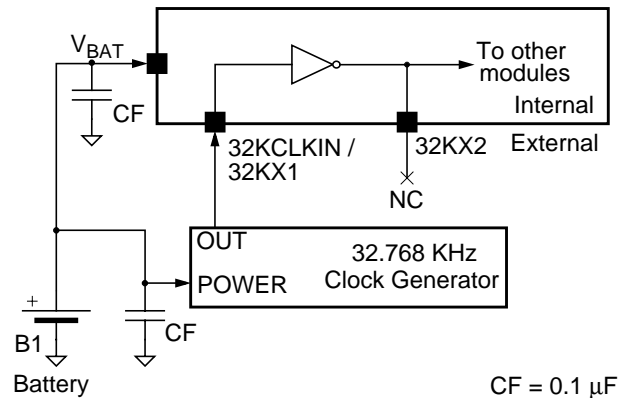

Figure 114. External Oscillator Connections
32.768 KHz can be applied from an external clock source, as shown in Figure 114.